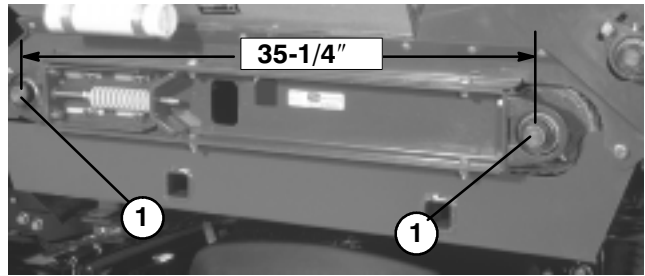

Figure 21
3. Check to insure that the center distance between conveyor belt roller shafts (Fig. 21), on each side of machine, are equal distance (approximately $35\text{-}1/4''$).